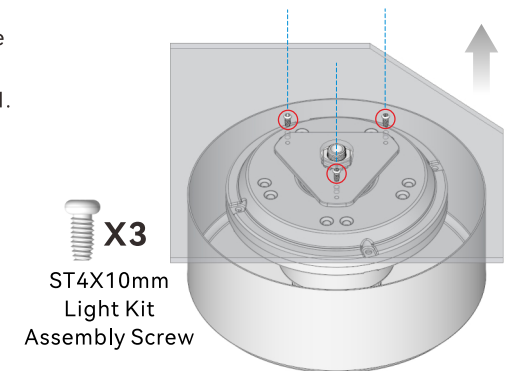

Fig. 1.1
- 1.2 Use a screwdriver to loosen the three light kit assembly screws from the MDF and remove the MDF as shown in Fig. 1.1. The MDF is used to protect the motor hub during transportation. Keep the screws for later use.